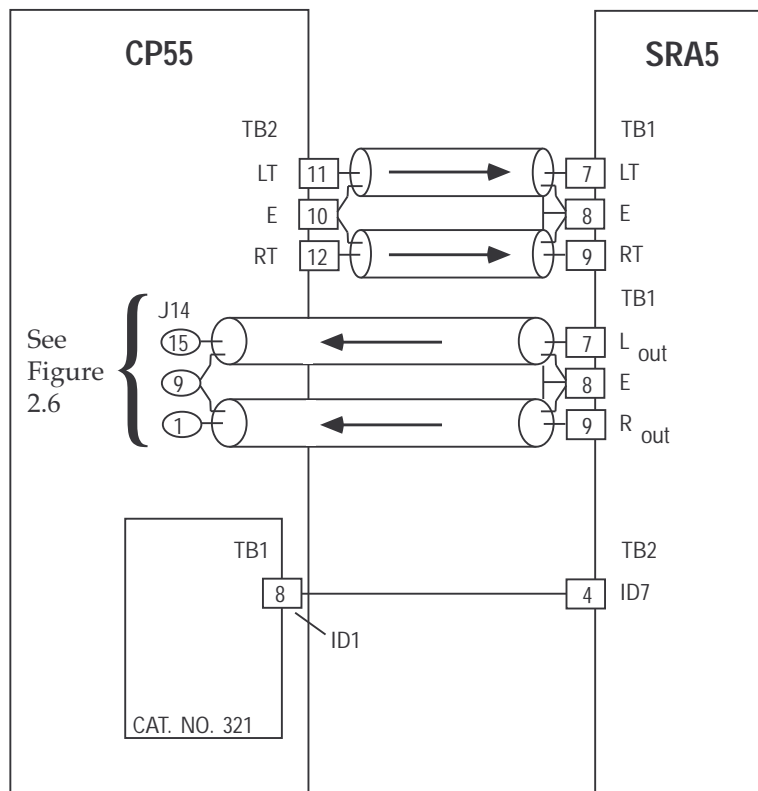

Figure 2.5 SRA5 to CP55 Connections (Alternative Method)
3. Use a shielded pair such as Belden #8451 for the audio and an 18-24 gauge single conductor wire for the control line. Connect the shields at the SRA5 end only. Perform the following wiring steps (refer to **Figure 2.5**):